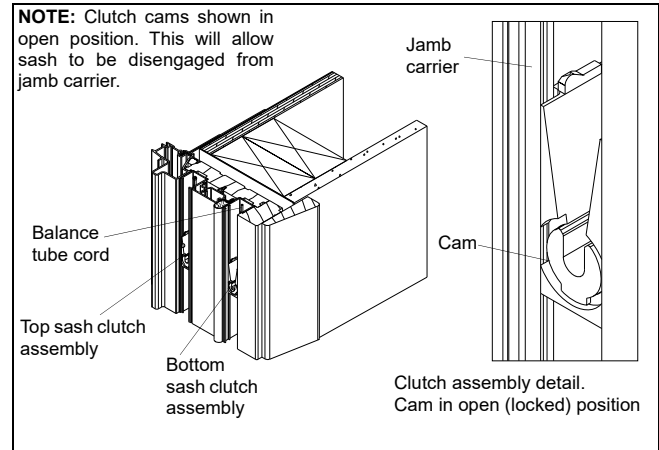

Figure 29 Interior view
NOTE: Rotate the balance clutch cam to the open locked position (cam opening up) as shown in figure 29. Release the screwdriver carefully from the clutch assembly (it must lock in place or damage will occur). Compare clutch heights from the sill for the sash affected they MUST be within 1/8" (3) of each other or damage may occur when sash are reinstalled, adjust height as needed.